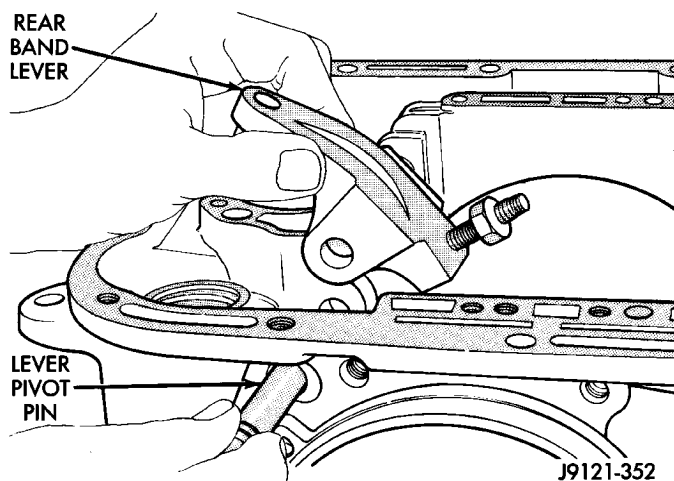

Fig. 113 Rear Band Lever And Pivot Pin Installation
(8) Install rear band lever and pivot pin (Fig. 113). Align lever with pin bores in case and push pivot pin into place.